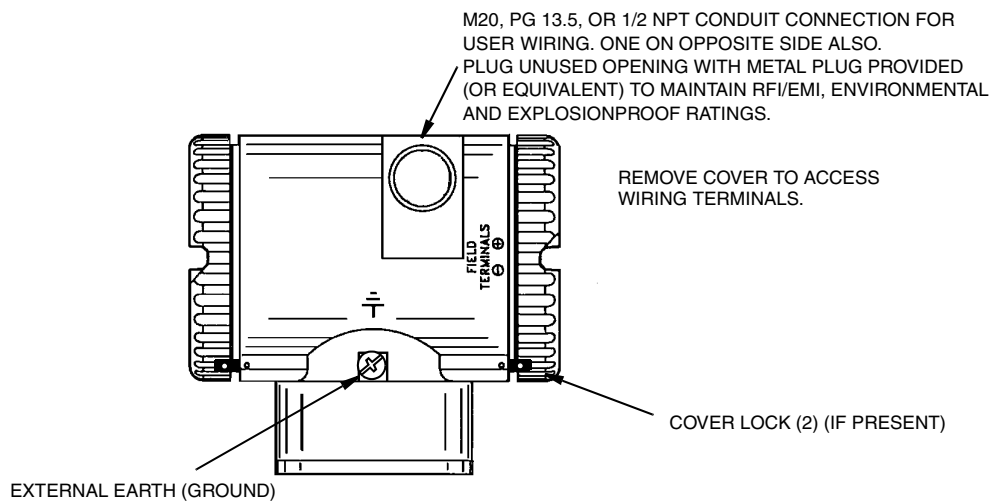
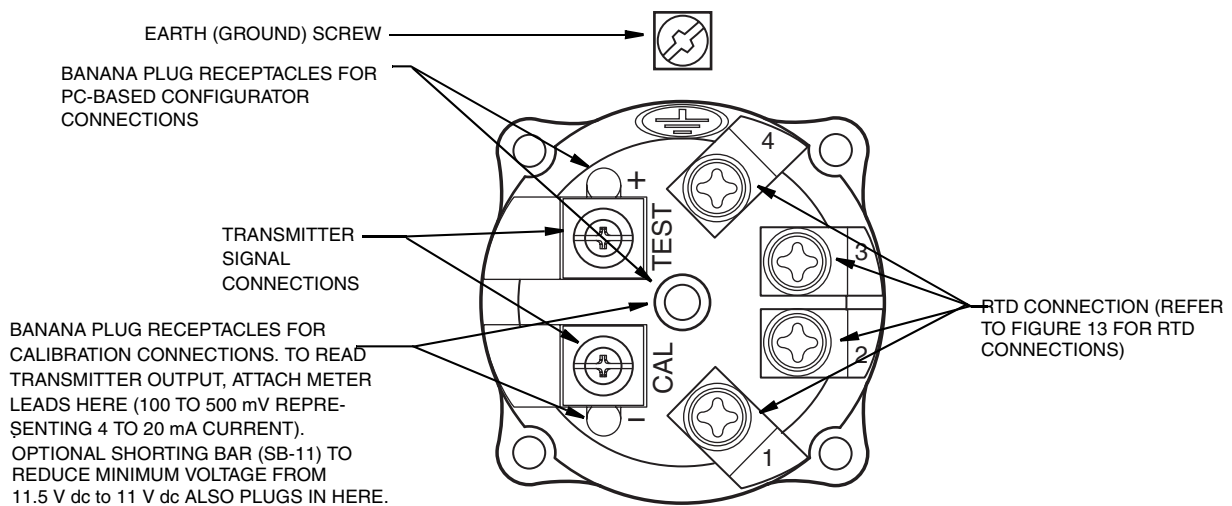
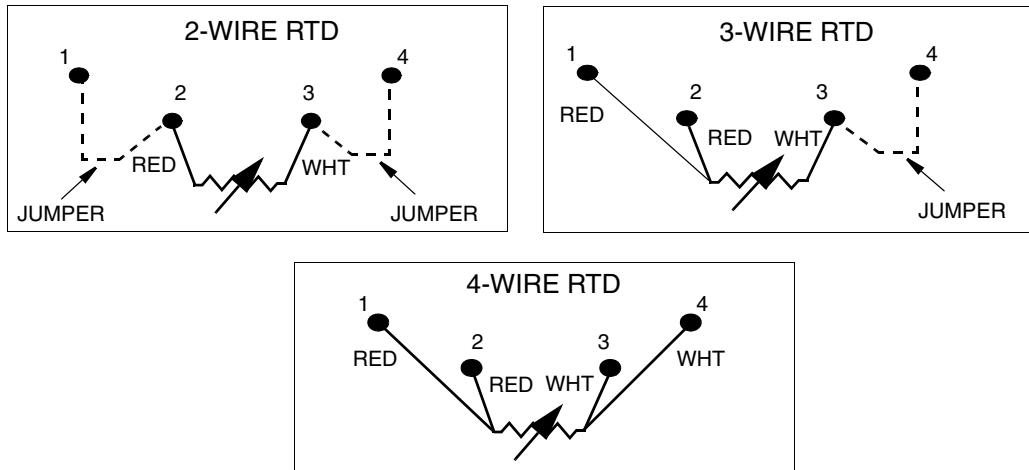

Figure 7. Accessing Field Terminals
Figure 8. Identification of Field Terminals
Figure 13. RTD Wiring
Electronic housing cover locks, shown in Figure 7, are provided as standard with certain agency certifications and as part of the Custody Transfer Lock and Seal option. To lock the covers, unscrew the locking pin until approximately 6 mm (0.25 in) shows, lining up the hole in the pin with the hole in the housing. Insert the seal wire through the two holes, slide the seal onto the wire ends and crimp the seal.
For access to the field terminals, thread the cover lock (if present) into the housing to clear the threaded cover and remove the cover from the field terminals compartment as shown in Figure 7. Note that the embossed letters **FIELD TERMINALS** identify the proper compartment. Identification of terminals is shown in Figure 8.
2. Run signal wires (0.50 mm² or 20 AWG, typical) through one of the transmitter conduit connections as shown in Figure 7. Use twisted pair to protect the 4 to 20 mA output and/or remote communications from electrical noise. Maximum recommended length for signal wires is 3050 m (10000 ft)
6. Connect the power supply and receiver loop wires to the “+” and “-” terminal connections shown in Figure 8.
5. Connect an earth (ground) wire to the earth terminal in accordance with local practice. Ground terminal is shown in Figure 8.
6. Connect the signal wires to the transmitter “+” and “-” terminal connections shown in Figure 8.
7. The HART Communicator or PC-Based Configurator can be connected via banana plugs to the top two receptacles (designated **TEST**) on the terminal block in the field terminal compartment as shown in Figure 8 or any other convenient location in the loop (subject to hazardous location restrictions).
Connect your RTD to terminals 1, 2, 3 and 4. Locations are shown in Figure 8. Wire per Figure 13.